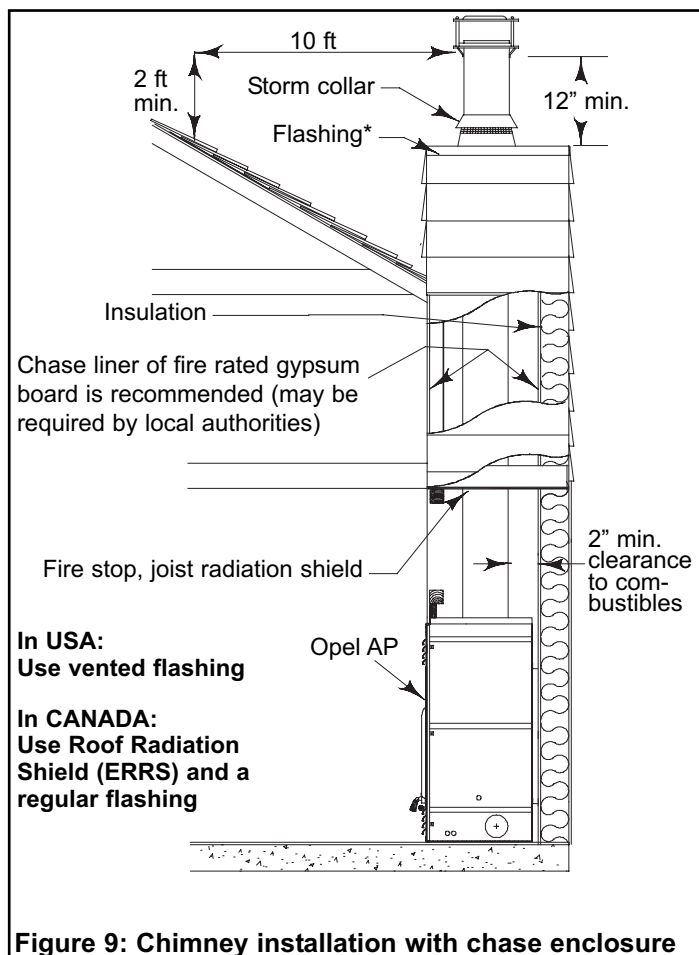

Figure 9: Chimney installation with chase enclosure
**NOTE:** In USA if the chase is enclosed or flashed to the roof as shown in (Figure 9), then the flashing must be vented.
If required by local codes, make certain that the walls have been properly insulated, vapor sealed and sheathed with a fire rated gypsum board (see Figure 9).